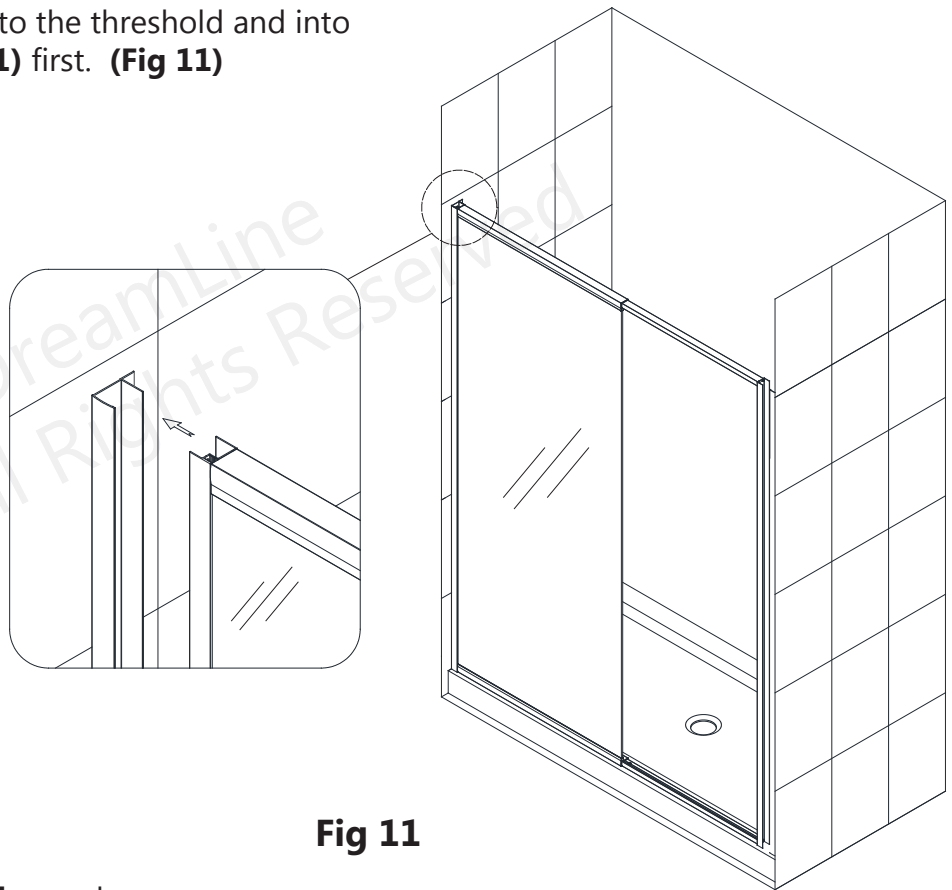

**Fig 11**
**11.** Place the assembly back onto the threshold and into the panel-side **Wall Profile (#01)** first. **(Fig 11)**